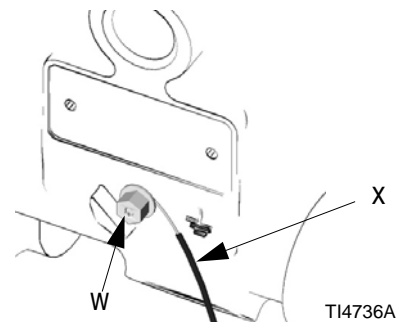

FIG. 1: Ground Wire Connection
- *Pump:* Connect a ground wire and clamp as shown in FIG. 1. Loosen the grounding screw (W). Insert one end of a 12 AWG (1.5 mm²) or thicker ground wire (X) behind the grounding screw and tighten the screw securely. Connect the clamp end of the ground wire to a true earth ground. To order a ground wire and clamp, order part number 222011.